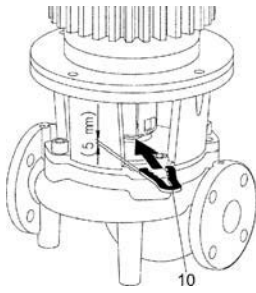

Fig. 18: Forked spacer for setting work
For all installation work (pump type design A/B), the forked spacer (Fig. 18, item 10) is required to set the correct impeller position in the pump housing!